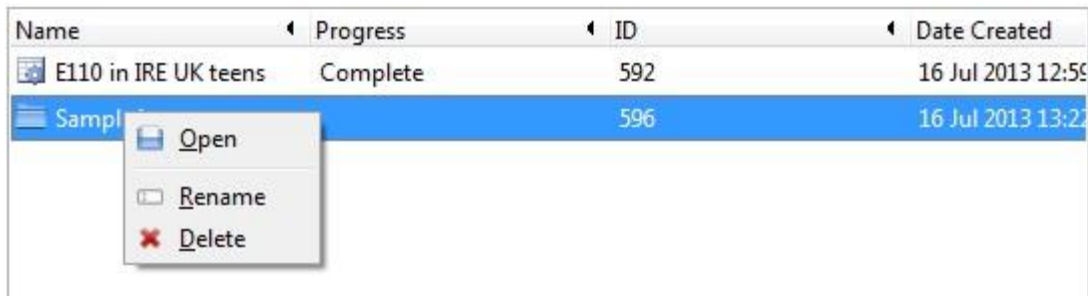

Figure 7: Renaming/deleting a folder
1. To rename a folder, right click on the folder and select “Rename”. Alternatively, select the folder and choose “Rename” from the Edit menu (Figure 7).
1. To delete a folder, right click on the folder to delete and select “Delete” from the context menu (Figure 7).